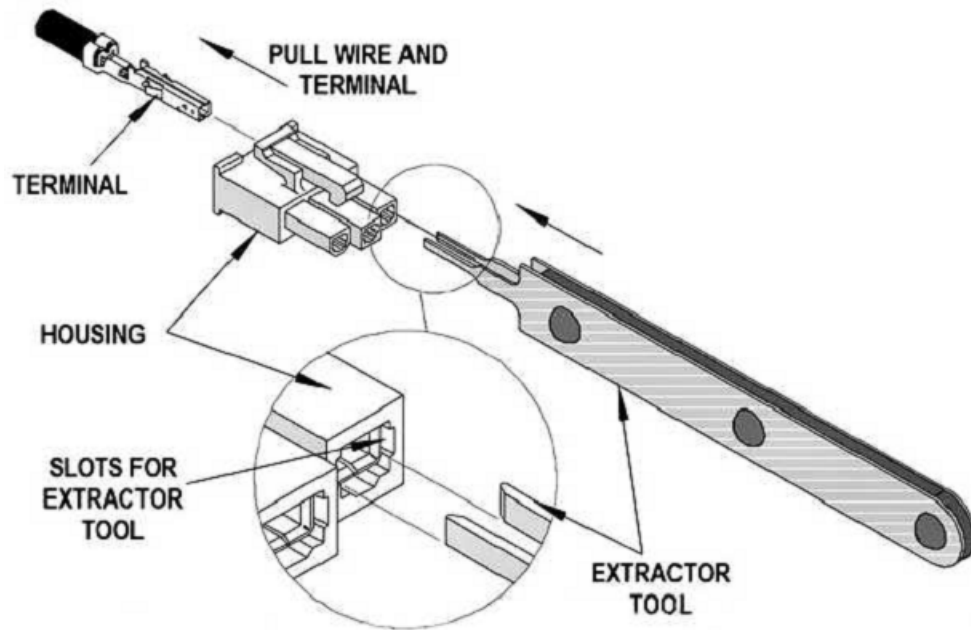

Figure 8 Using Extractor Tool to Remove Wire and Terminal from Connector
3. See Figure 8. Remove red A1 wire at PIN 9 from the power harness (CONN6) using extractor tool.